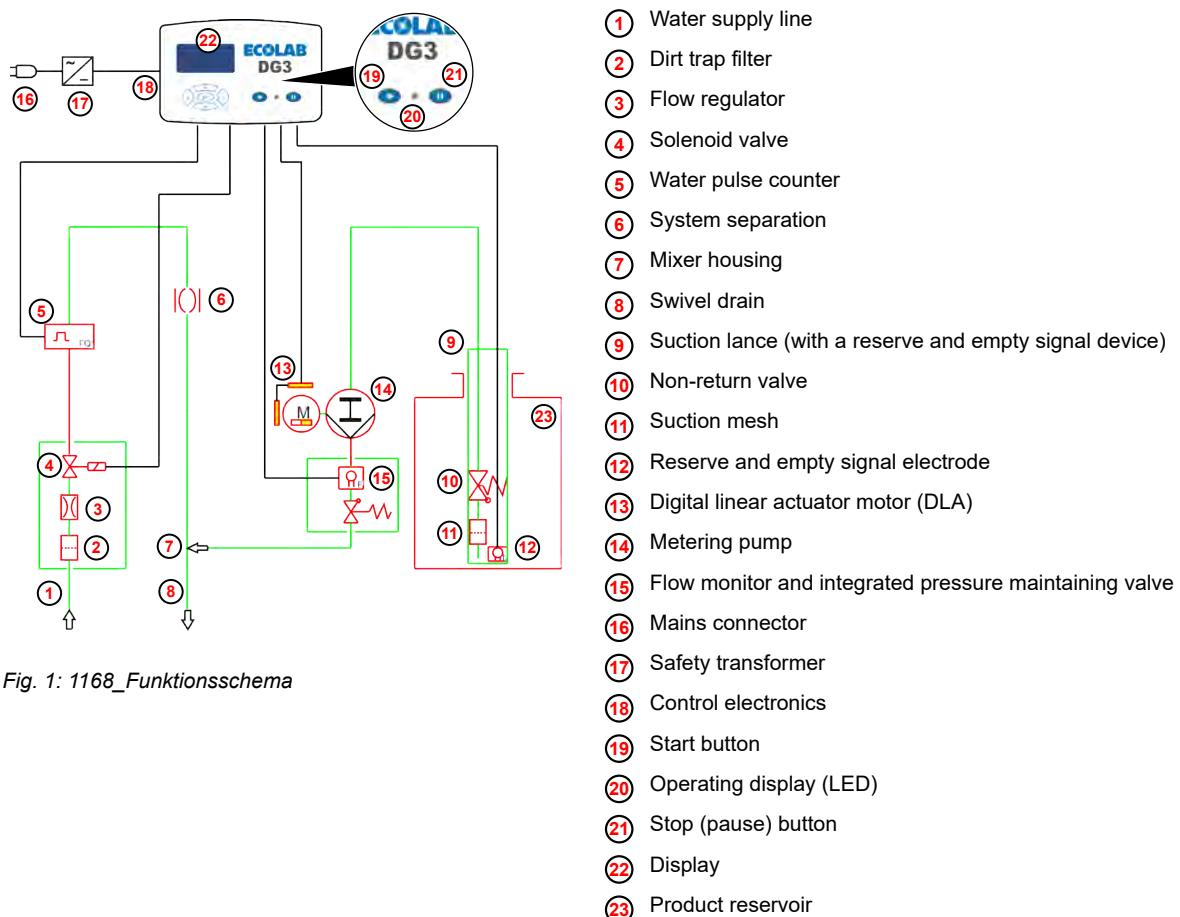

Fig. 1: 1168_Funktionsschema
To limit the max. water flow, a quantity regulator is located ahead of the solenoid valve (Fig. 1, ④).
The flow monitor (Fig. 1, ⑯) that is positioned in front of the admission point constantly monitors the disinfectant flow. If the product flow is interrupted as a result of a fault on the metering pump, suction line, motor or level suction lance, or if an incorrect product is used, the unit registers an error. Alarm number ‘0207’ appears on the display. ↗ *Chapter 11.2 ‘Fault messages’ on page 94*